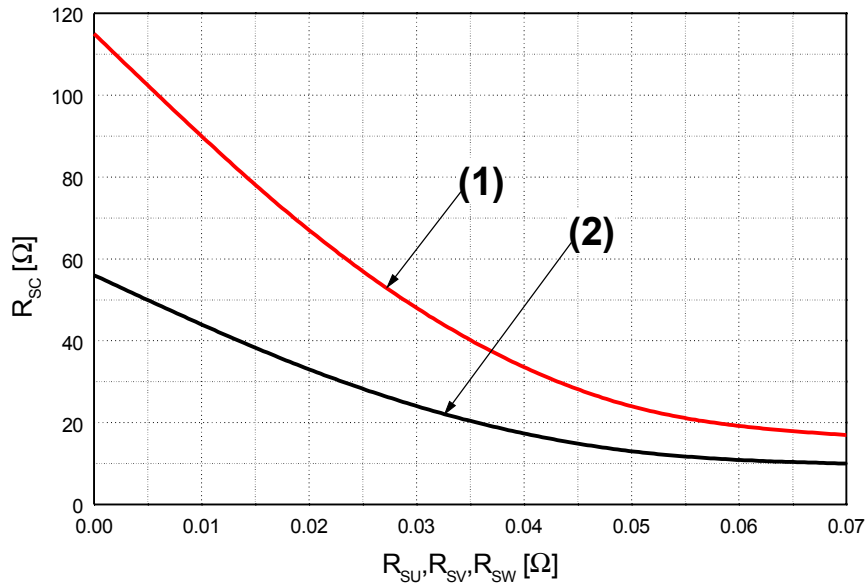

Fig. 7. R_{SC} Variation by change of Shunt Resistors (R_{SU} , R_{SV} , R_{SW}) for Short-Circuit Protection
- Short-circuit current protection is functioning only at the low-sides. It would be recommended that the value of the external sensing resistor (R_{SC}) should be selected around 56 Ω in order to make the SC trip-level of about 30A at the shunt resistors (R_{SU}, R_{SV}, R_{SW}) of 0Ω. For the detailed information about the relationship between the external sensing resistor (R_{SC}) and the shunt resistors (R_{SU}, R_{SV}, R_{SW}), please see Fig. 7.